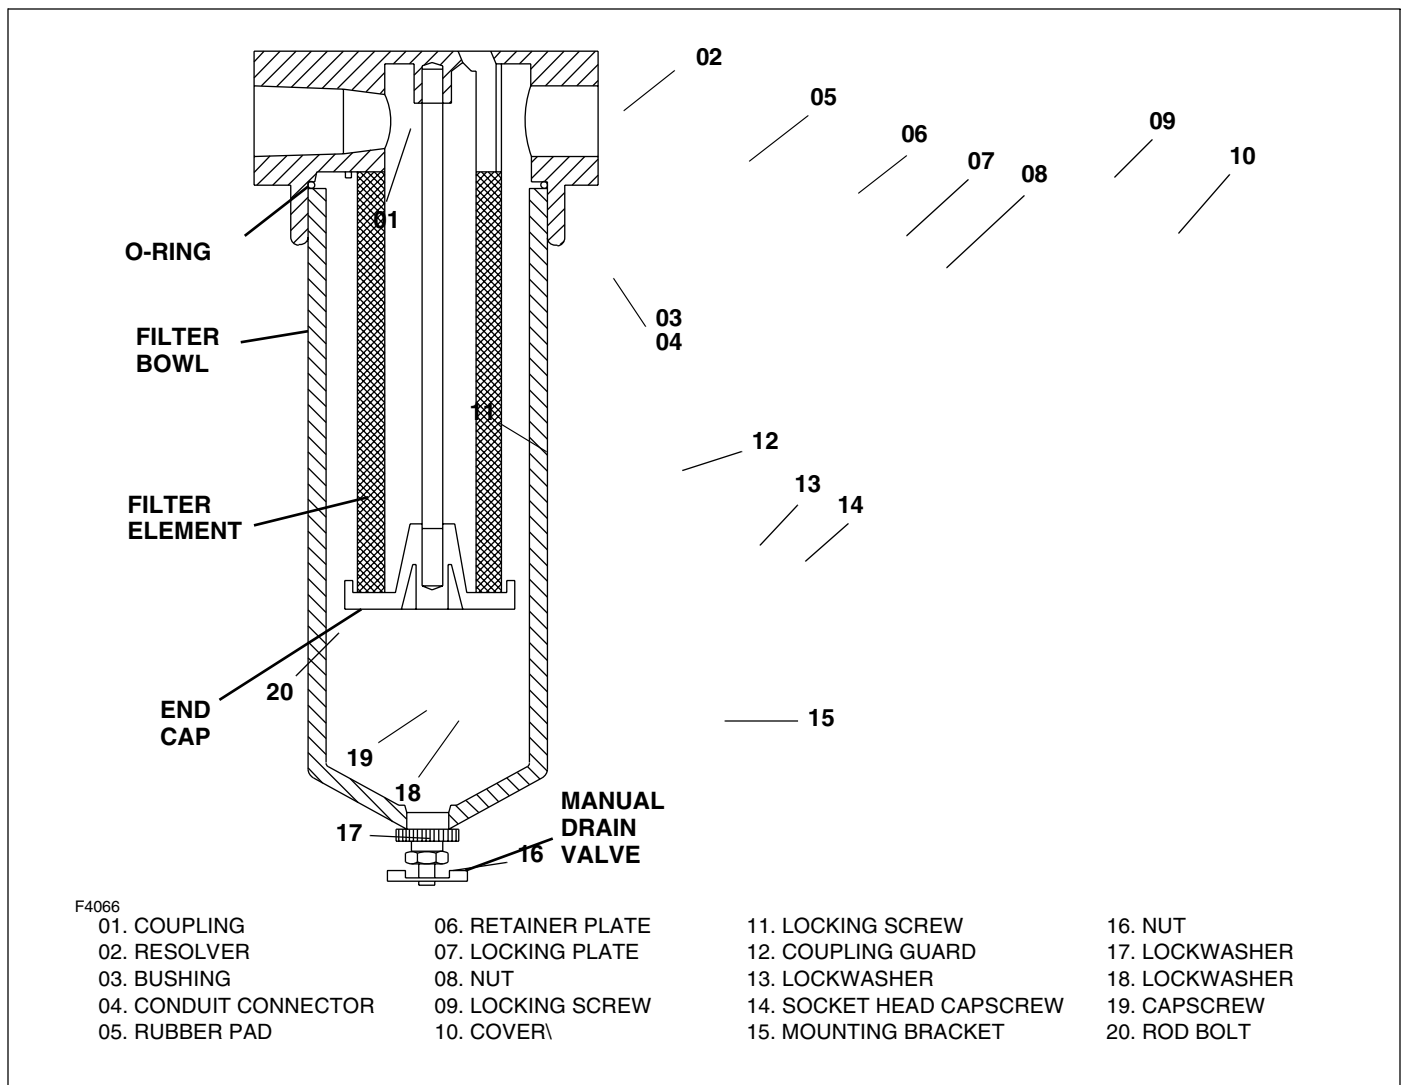

Figure 4-28. Limit Switch Sensor
The limit switch sensor is coupled to the hoist intermediate shaft. It consists of a resolver and mounting assembly as shown in Figure 4-28.
RESOLVER REPLACEMENT. Refer to Figure 4-28 and replace the resolver as follows:
- A. Measure the free length of coupling (01) and record.
- C. Install new resolver (02) with coupling into mounting bracket (15) making sure that the coupling slides onto the extension shaft properly.
8. Install rubber pad (05), retainer plate (06) and locking plates (07). Thread nuts (08) on rod bolts (20) and tighten securely. Do not overtighten.
9. Bend the ends of locking plates (07) over the flat of each nut (08).
12. Install coupling guard (12) with locking screws (11), lockwashers (17) and nuts (18).
13. Install cover (10) with locking screws (09).
- LIMIT SWITCH SENSOR ASSEMBLY REMOVAL.** Refer to Figure 4-28 and remove the limit switch sensor from the second reduction shaft as follows:
1. Remove locking screws (11), lockwashers (17), nuts (16) and coupling guard (12) from the sensor assembly.
INSTALLATION. Refer to Figure 4-28 and install the limit switch sensor assembly as follows: